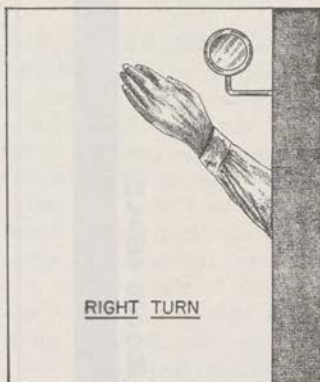

FIGURE 3.
(1) *Right turn*.—Extend left arm at an angle of 45° above horizontal. (See fig. 3.)